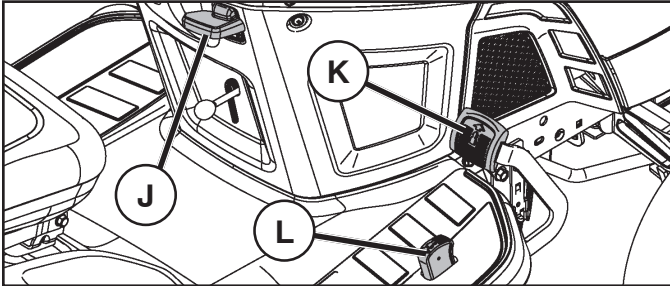

Fig. 24
(See Fig. 24)
- Slowly depress forward (K) or reverse (L) drive pedal to begin movement. Ground speed increases the further down the pedal is depressed.
## TO USE CRUISE CONTROL (J) (See Fig. 24)